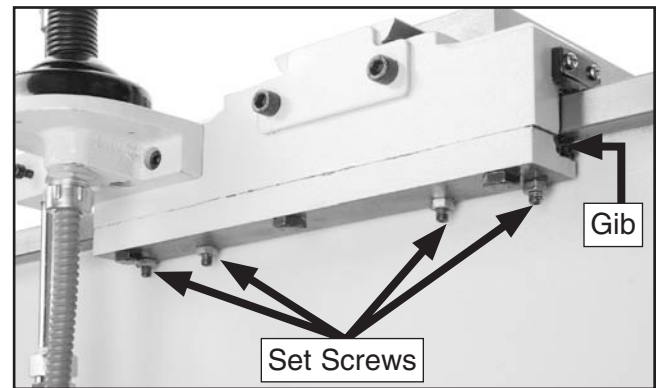

Figure 98. Saddle gib components.
The saddle gib is located on the bottom of the back edge of the slide (**Figure 98**). This gib is designed differently than the cross or compound slide gibs. Instead of being a wedge-shaped plate, it is a flat bar. The gib pressure is applied by four set screws. Hex nuts secure these set screws in place, so they will not loosen during operation.
4. Loosen the jam nuts on the four set screws shown in **Figure 98**, and adjust the set screws as follows: